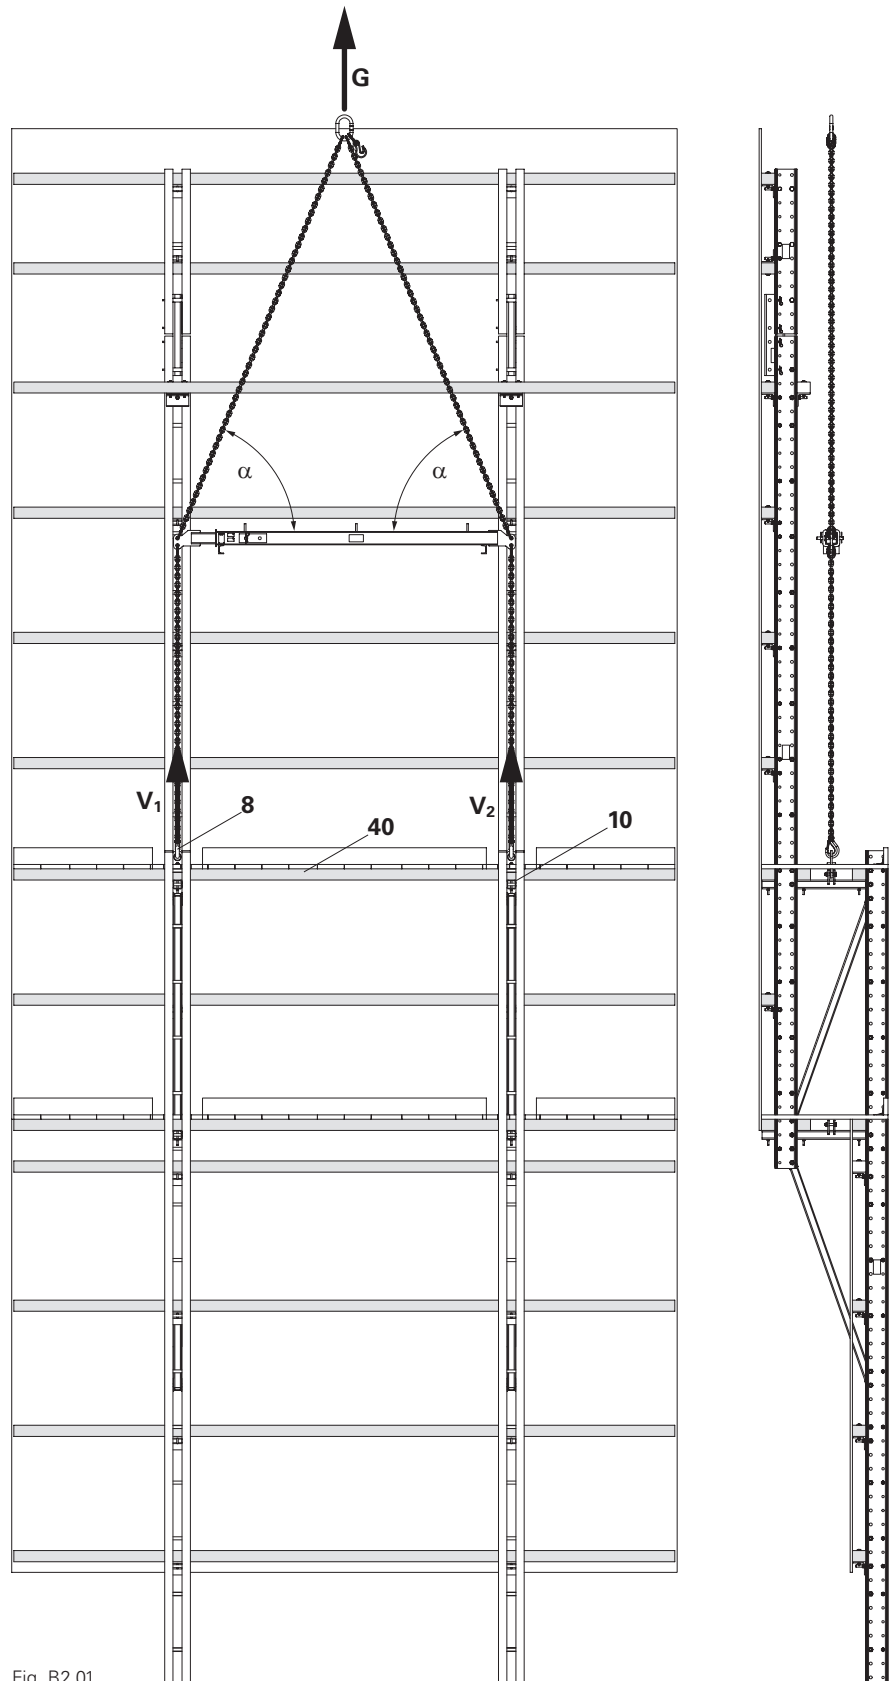

Fig. B2.01
Attachment point with Lifting Eye BR 2.5 t (8) Platform beam (40) as compression brace (Fig. B2.01)
- With heavy climbing units where a load of more than 25 kN per attachment point must be lifted, attach the PERI Climbing Beam RCS 9t to a spacer. (Fig. B2.01)